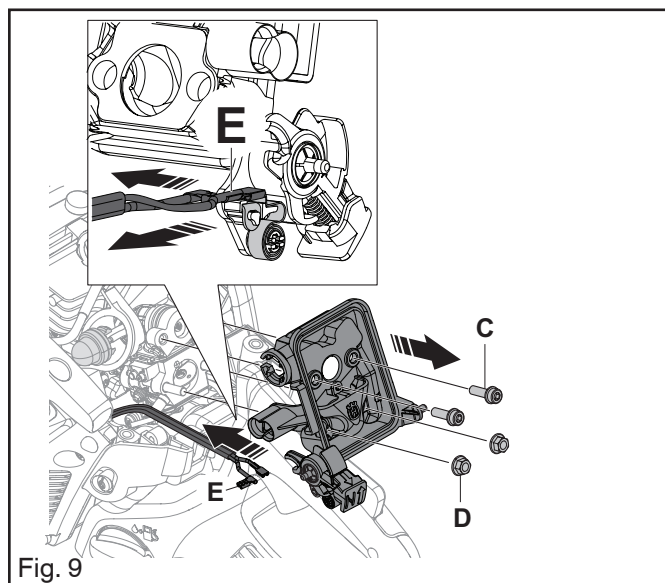

Fig. 9
4. Remove the screws (C). See Figure 9.
5. Remove the nuts (D). See Figure 9.
6. Carefully pull out the air filter holder (B). See Figure 9.
7. Detach the cable (E). See Figure 9.
8. Attach the ignition cable (E) to the start/stop switch and fit the air filter holder (B) to the carburettor. Make sure the hoses coming to the primer bulb don't get pinched. See Figure 9.